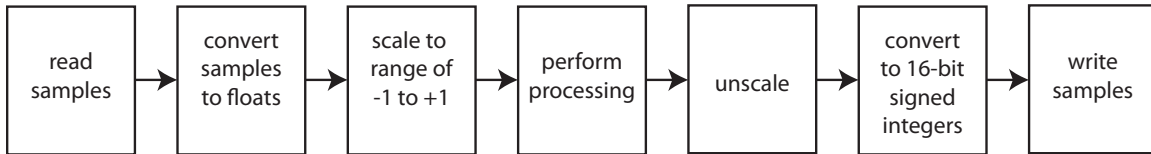

Figure 1: Typical steps when processing samples from the AIC23 codec
1. Squaring the samples on the left input channel is a little bit more complicated than simply multiplying the sample by itself because you are likely to get overflow in the 16-bit signed integer datatype (with range  $-32768$  to  $+32767$ ) if you do this directly. Instead, consider the processing steps shown in Figure 1. By pre-scaling the samples (and converting to floats), the samples remain in the range  $[-1, +1]$  after squaring. Unscaling and conversion to signed integers is necessary before writing the modified samples to the AIC23 codec.